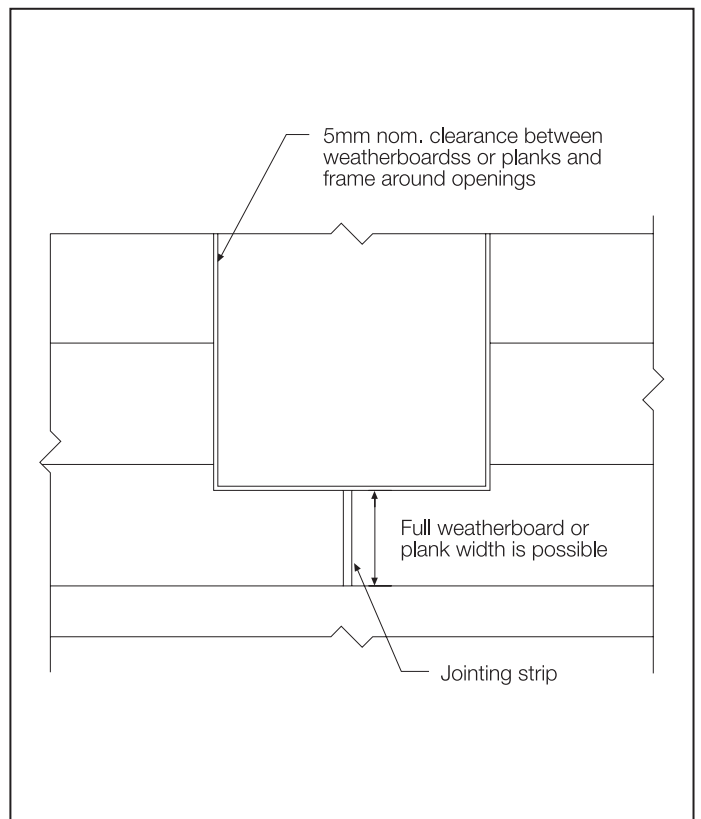

FIGURE 37 CUTTING AROUND OPENINGS
- For opening widths up to 1800mm - 1 joint minimum. Ideally, this should be located at a corner, but where joint lengths override this, the location of the joint can fall between the two corners. Refer to Figure 37.